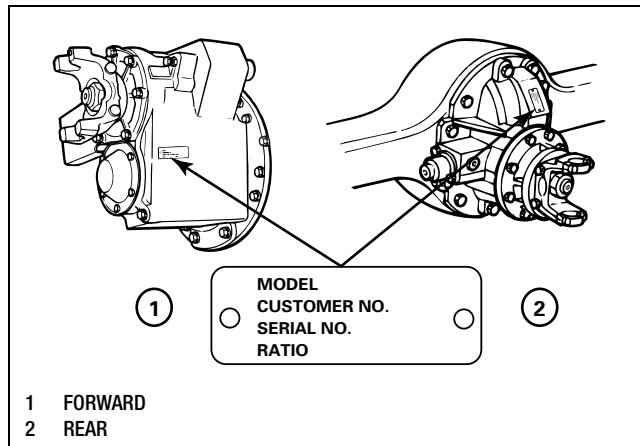

Figure 4.14
1. Locate the identification tags riveted to the forward and rear axle differential carriers. Figure 4.14.